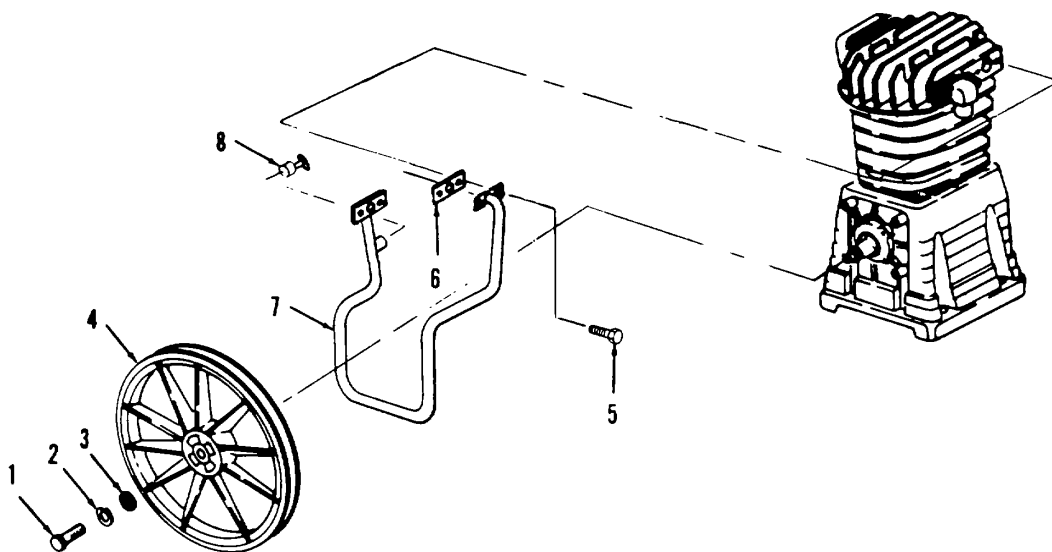

Figure 4-21. Flywheel and Intercooler Tube Repair and Replacement.
- a. **Removal.** (Refer to Figure 4-21).